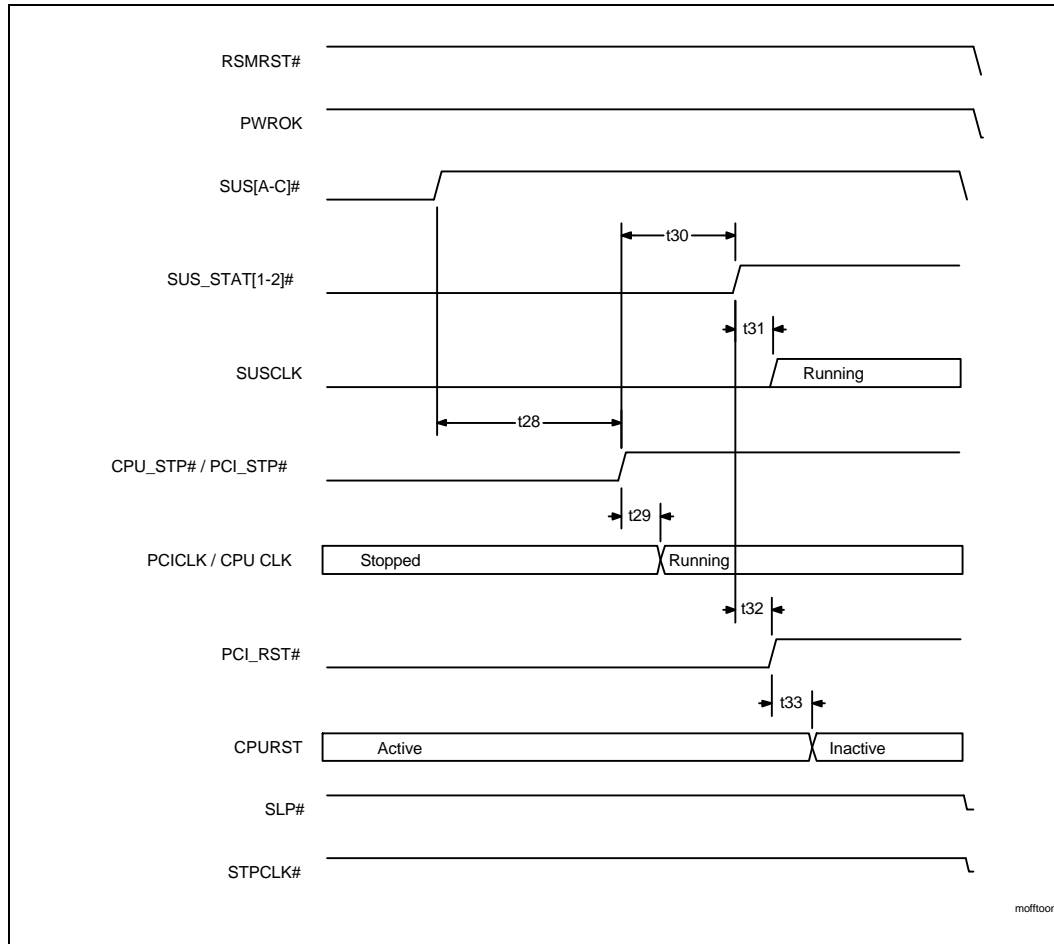

Figure 22. Mechanical Off to On
2. There are no specific requirements for these timings related to PIIX4. The system manufacturer should make sure that the clocks on power up meet any other system specifications. As a minimum, the clocks must be available and stable after time t30 shown in Figure 22.
Figure 22 shows the transition from a Mechanical Off condition to the On condition. The signal states begin at the final states shown in Figure 20 and Figure 21.